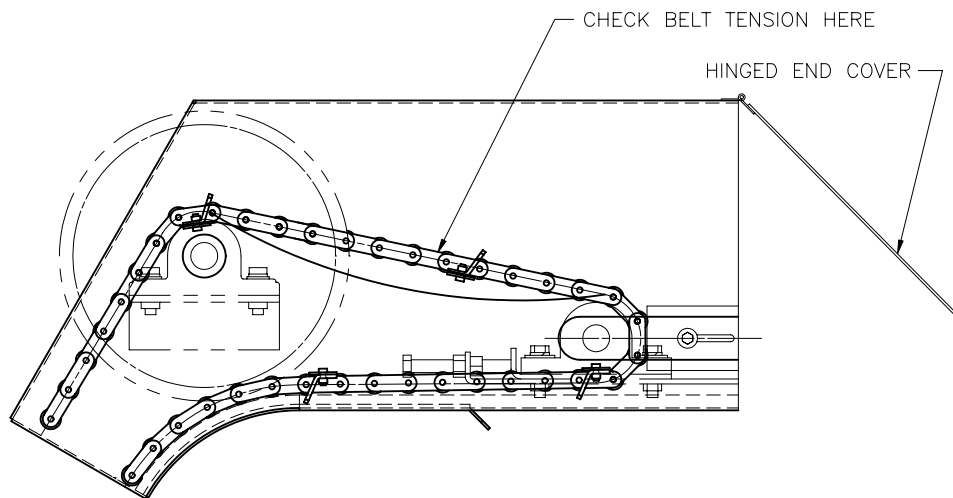

Figure 20: Typical head section.
2. Visually, check under the hinged end cover to see if the drag belt is sagging. Also, with gloves on, pull cleat away from the bottom pan of the conveyor (See Figure 20).